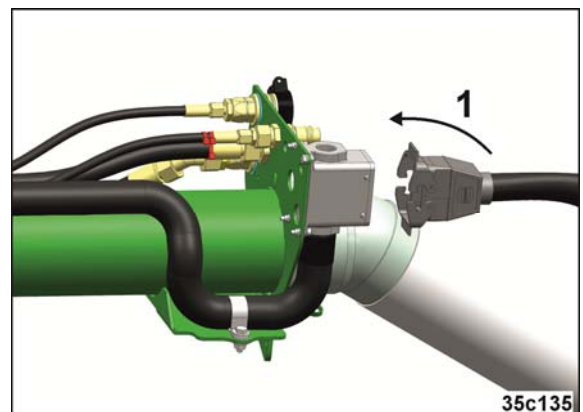

Fig. 43
1. Connect the front hopper plug (Fig. 43/1) to the data cable from the hose package.